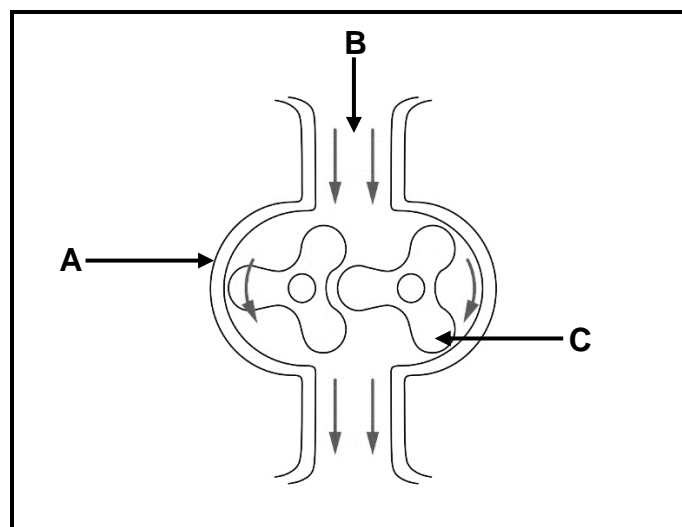

FIGURE 5.5
- 5.5 FIGURE 5.5 below shows a machine used in an automotive workshop. Answer the questions that follow.
- 5.5.1 Identify the machine shown in FIGURE 5.5 above. (1)
- 5.5.2 What is the function of the machine shown in FIGURE 5.5 above? (1)
- 5.5.3 Which safety feature is not present on the machine in FIGURE 5.5 above? (1)